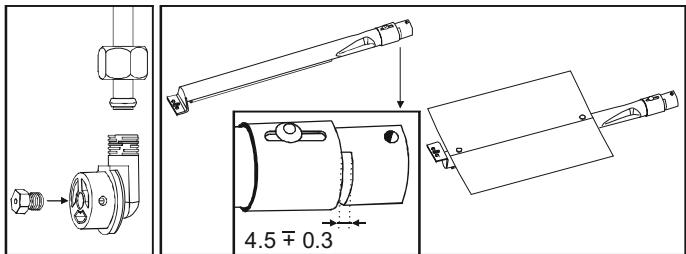

Figure 16
- BurnerGap is $4.5 + 0.3$ mmfor NGand LPG(Figure 16)